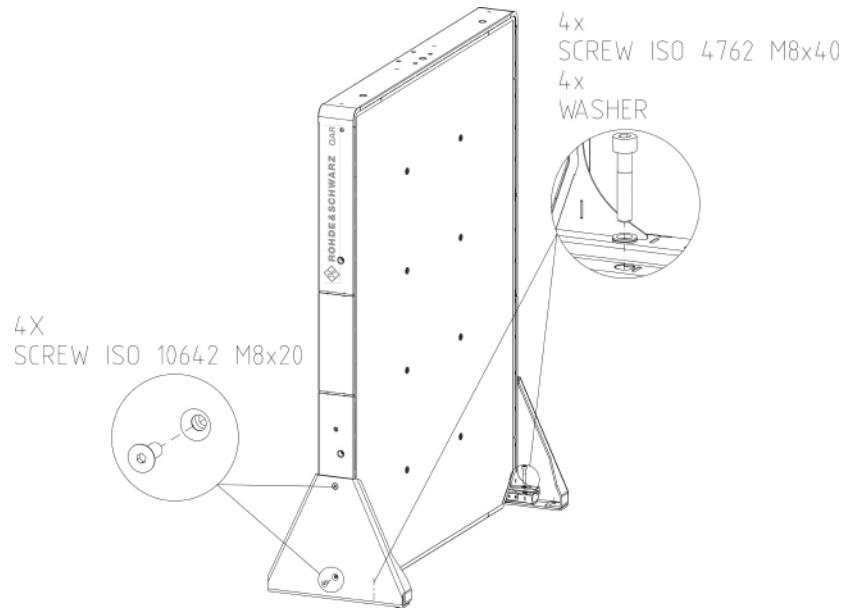

Figure 4-2: R&S QAR installation, including support installation
2. Screw the two supports to the side of the R&S QAR with two socket head screws (ISO 10642 M8x20, Allen wrench size 5) on each side of the R&S QAR (see Figure 4-2).
3. Screw the two supports to the R&S QAR with the socket head screws (ISO 4762 M8x40, Allen wrench size 6) on each side of the R&S QAR (see Figure 4-2).